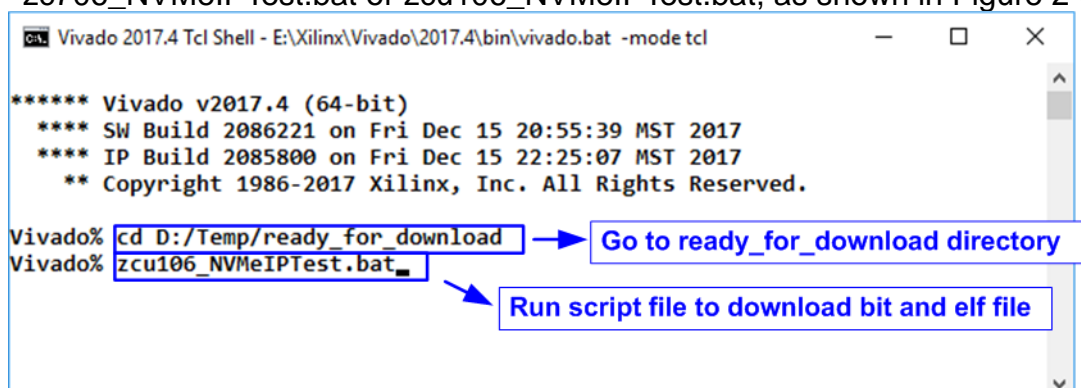

Figure 2-9 Command script to download demo file on Vivado TCL shell
- b) For ZC706/ZCU106 board, open Vivado TCL shell and change directory to ready_for_download or directory that batch file is located. Next, type zc706_NVMeIPTest.bat or zcu106_NVMeIPTest.bat, as shown in Figure 2-9.